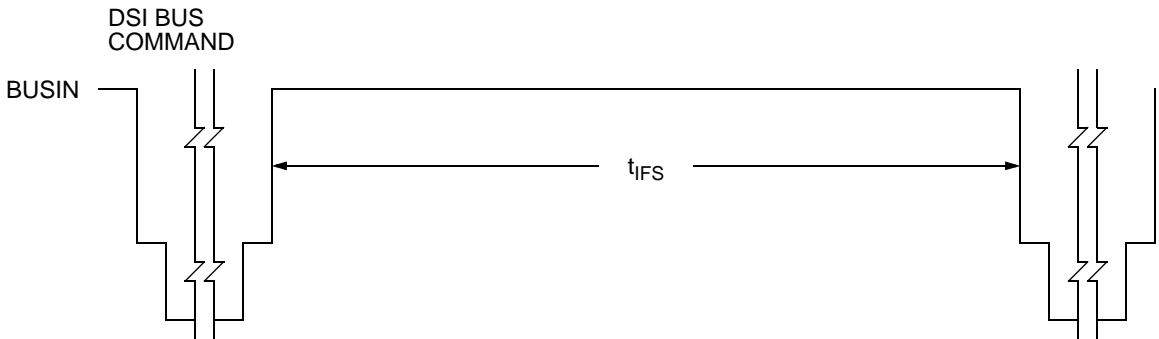

Figure 5-5. DSI Bus Interframe Timing
| 130 | Interframe Separation Time (see Figure 5-5) Following Read Write NVM Command Following Initialization or Reverse Initialization | t_{IFS} | 2 | — | — | ms | (3) | |